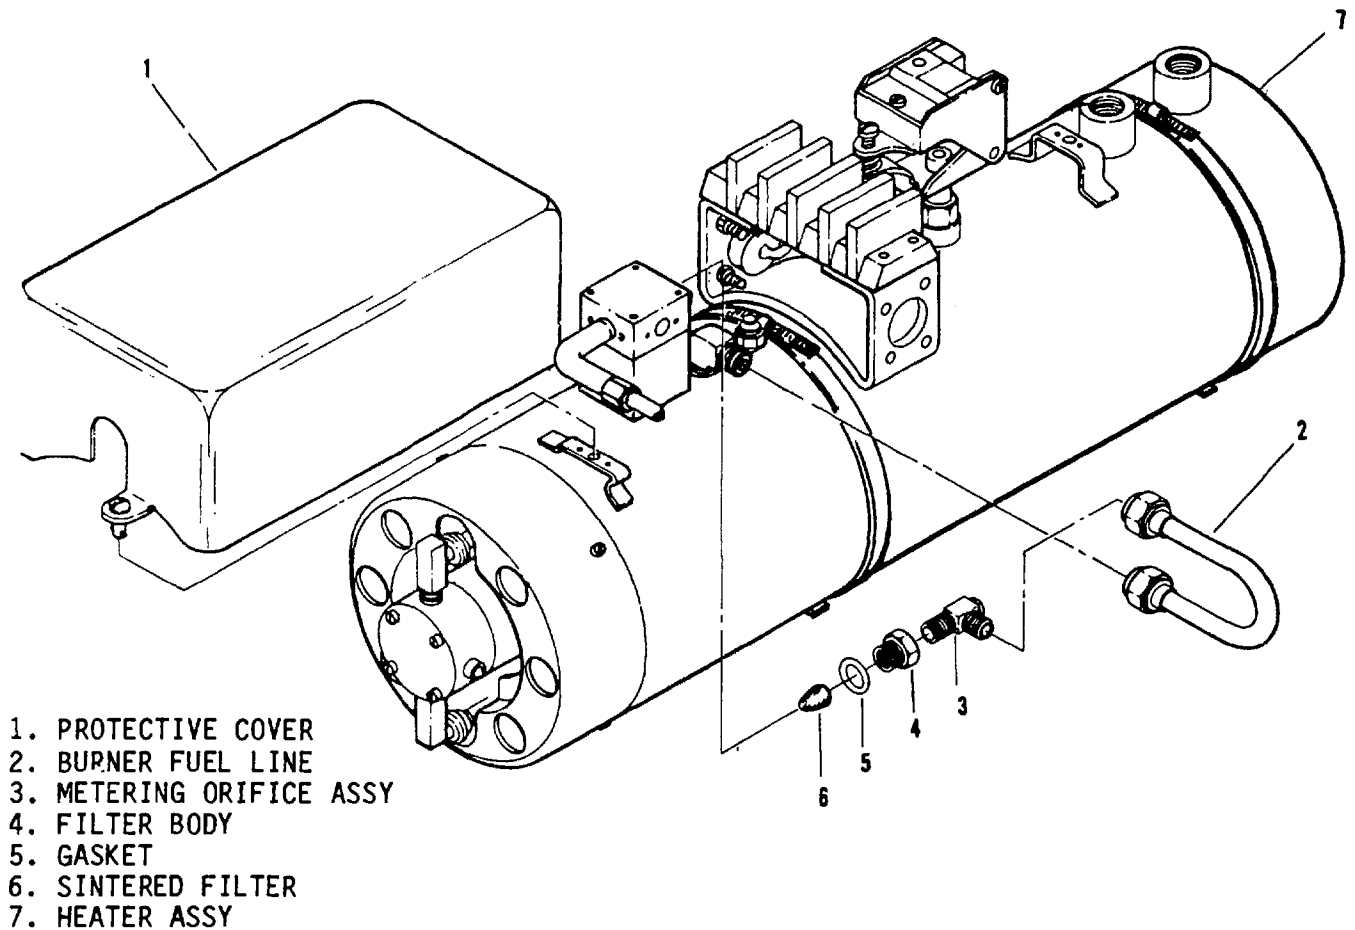

Figure 5-2. Fuel Burning Winterization Kit Heater Assembly, Service
(1) Remove protective cover (1, figure 5-2) by loosening two captive screws.
(2) Disconnect burner fuel line (2) and remove metering orifice assembly (3).
(3) Remove filter body (4) with gasket (5) and sintered filter (6) from heater assembly.
(4) Unscrew sintered filter (6) from filter body (4). Discard gasket (5).